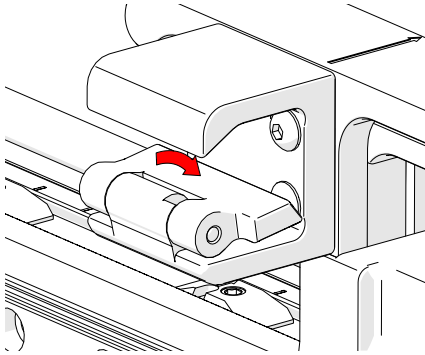
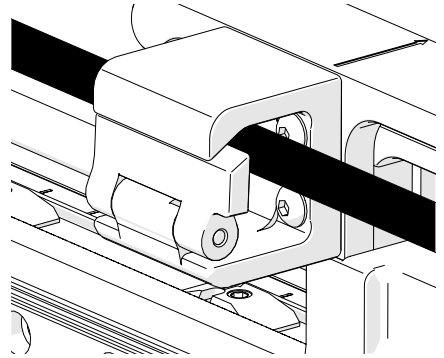

Fig. 43 - Carrier cable clip flap
Fig. 44 - Carrier cable clip
1. Push the cable clip flap down (*Fig. 43*) to insert the necessary cables and hoses (*Fig. 44*).